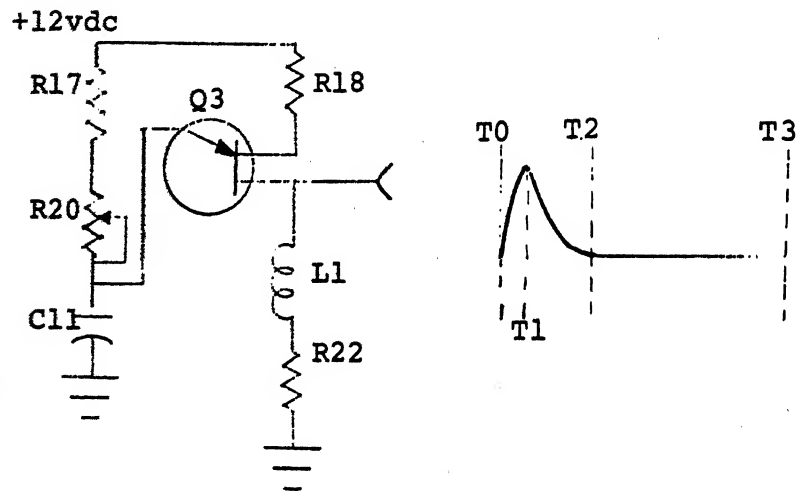

FIGURE 6
24. Referring to figure 6, two functions of the series combination R17, R20, and C11 are to